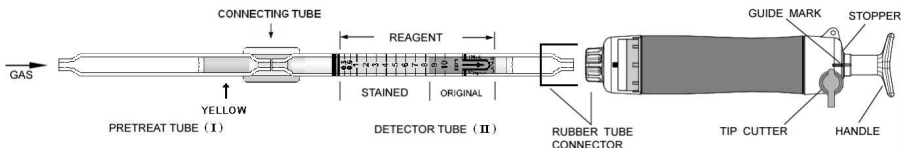

Fig.1
- ① Break both ends of the detector tube (II) and pretreat tube (I), and connect each end of the detector tube and pretreat tube with connecting tube as shown in Fig.1.
- ② Insert the detector tube into the aspirating pump securely as shown in Fig.1. (Arrow marks shall point to the pump.)
- ③ Align the guide marks on the shaft and stopper of the aspirating pump.
- ④ Pull the pump handle at a full stroke until it locks and wait for 2 minutes or until the completion of sampling is confirmed with the flow indicator of the pump. (See descriptions about the flow indicator in the instruction manual of the pump.)
- ⑤ On completion of sampling, read the scale at the maximum point of the stained layer.
- ⑥ When the concentration is over the scale range, a 1/2 pump stroke can be used to determine concentrations of 0.66 to 22 ppm.